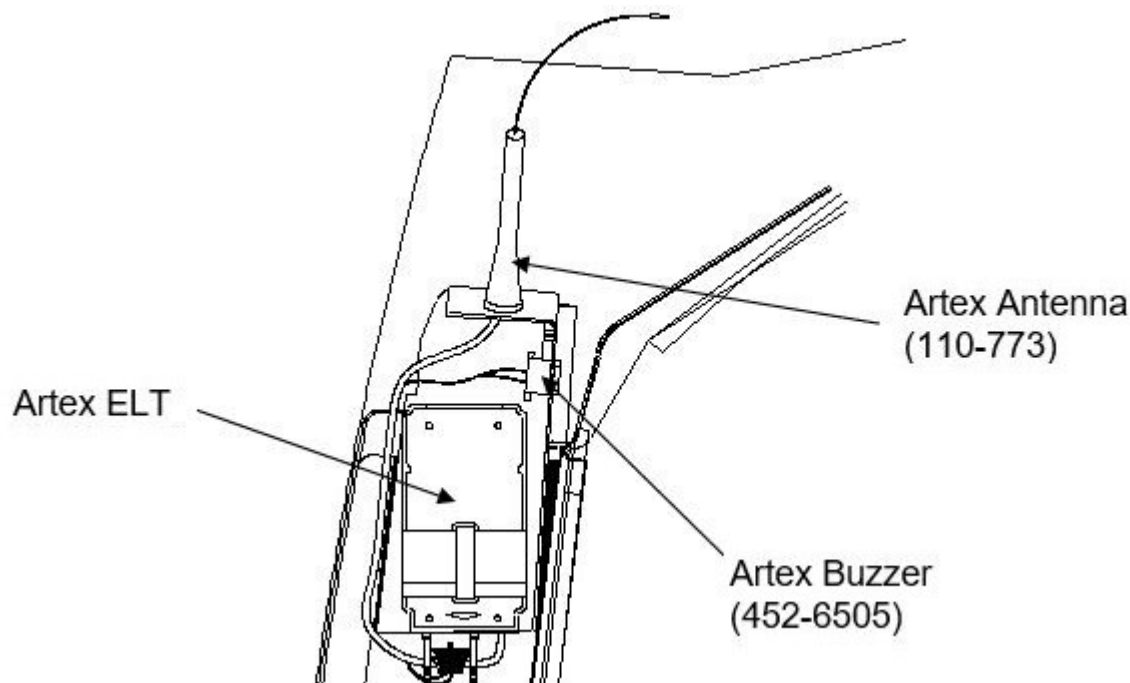

Figure 7. Installation of ELT unit, buzzer, and antenna.
25. Install the buzzer into the side bracket hole using the provided plastic bezel nut in accordance with the Artex ME406 or Artex ELT1000 manual. Refer to Figure 7.
26. Install the antenna into the side bracket hole in accordance with the Artex ME406 or Artex ELT1000 manual. Attach the ELT coax to the ELT antenna. Refer to Figure 7.